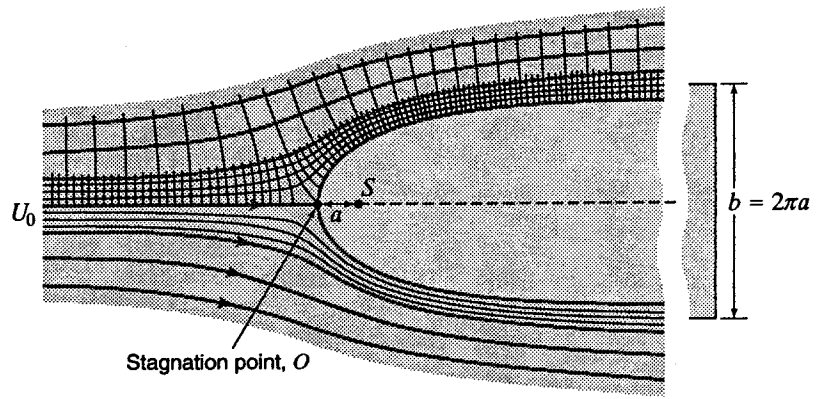

Figure 4.12
14.10 Using the method described in Sample Prob. 14.4, plot the boundary of the body and a set of streamlines for a steady two-dimensional flow past a body such as that of Fig. 4.12, for  $b = 15\text{ m}$  using a scale of  $1\text{ cm} = 2\text{ m}$ .
For Fig. 4.12,
Note from Fig. 4.12: Stagnation point  $O$  is on the  $x$ -axis at  $x = -b/2\pi = -15/2\pi = -2.39\text{ m}$